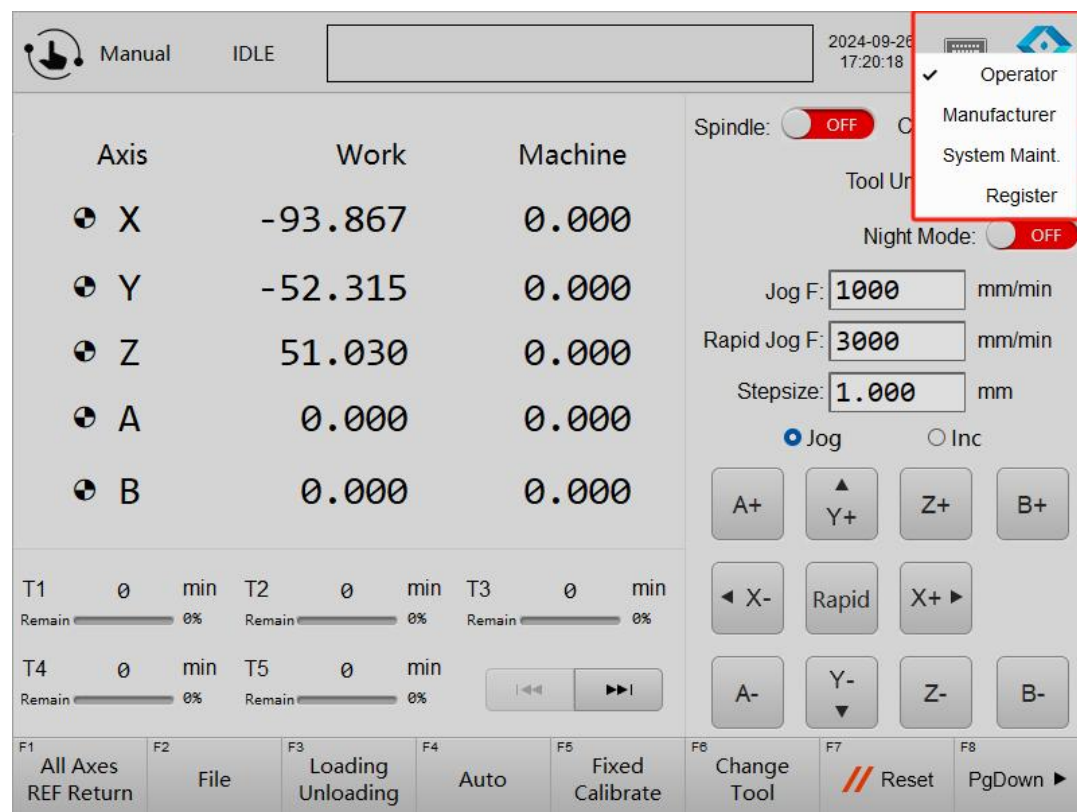

Figure 7.2.1 Switch Permissions
(1) Click the top-right corner of the machine tool's operation interface, as shown in Figure 7.2.1, and then click the "Manufacturer" option.